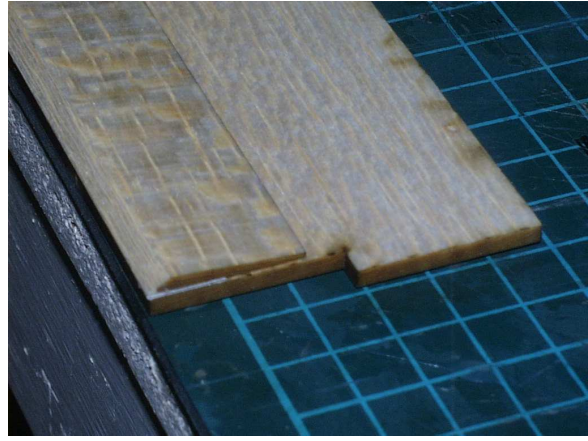

Figure 2.9: Beveled elevator
- Razor plane (or sand) a 45 degree bevel on the elevator where it will hinge onto the stab (Figures 2.9 and 2.10)